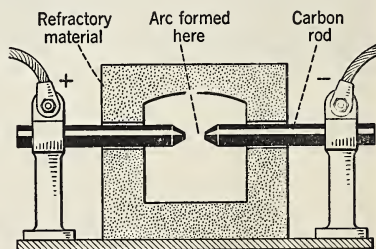

FIG. 661. The arc type of electric furnace. The temperature produced may reach 3500° C.
2. *Arc type furnaces.* Exceedingly high temperatures are obtained in the arc type furnaces. The temperature is estimated at about 3500° C. The electric arc is formed between two carbon rods in a refractory crucible in which the contents to be heated are placed. (See Fig. 661.) At one time, heat from an arc type of furnace was used to make nitrogen compounds from the free nitrogen present in the air. An electric furnace used for making steel is a kind of combination arc and resistance type.